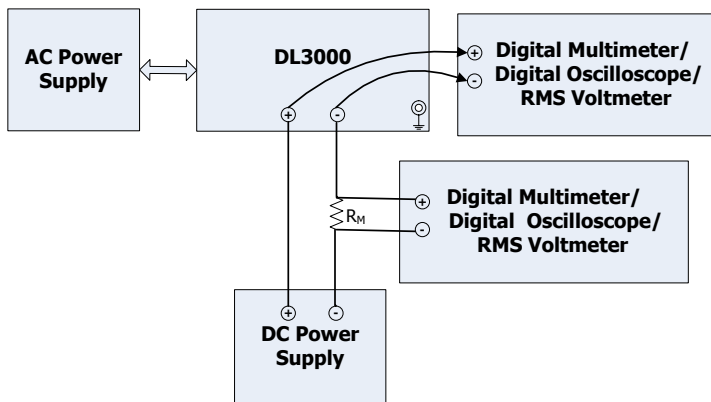

Figure 2-3 CR Test Connection
Before performing the test, select the appropriate AC voltage via the "AC Selector" on the rear panel of the electronic load according to the AC voltage standard of your country (230 Vac is taken as an example in all the tests in this manual). At room temperature (25°C), connect the recommended devices specified in "Recommended Test Devices" according to the connection method in Figure 2-3. During the test process, please set the AC voltage according to the selected voltage in "AC Selector" on the rear panel of the electronic load.
1. Power off DL3031A. Connect DL3031A, AC power supply, DC power supply, a current sampling resistor (with a resistance R_M 0.01 Ω), and a digital multimeter according to Figure 2-3 (Pay attention to the connection method for the current sampling resistor, the channel input terminals of DL3031A, and the digital multimeter). Connect the USB DEVICE interface on the rear panel of the electronic load to the PC via the USB cable.